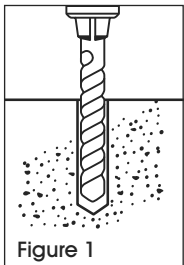

Figure 1
1. Drill hole the same diameter as anchor being used to any depth exceeding minimum embedment. Clear hole. (See Figure 1)